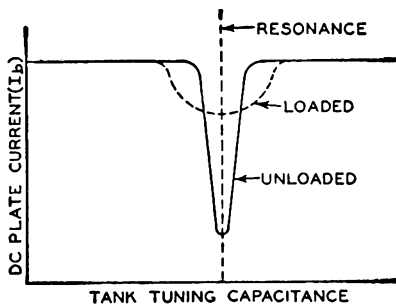

Fig. 50
(1) Make sure that all power to the equipment is *off*.
(2) Disconnect all positive plate, screen-grid, and suppressor-grid supply leads from the amplifier and from all following stages.
(3) If variable coupling is used between driver and amplifier, adjust the coupling to approximately one-half maximum.
(4) Apply only normal filament or heater voltage to the amplifier, and all normal operating voltages to the driver.
(5) Quickly tune the driver plate circuit to resonance, which is indicated by a dip in driver plate current, as shown in Fig. 50, and by maximum grid current in the amplifier stage. If the amplifier has a tuned grid circuit, this circuit should also be tuned to resonance (indicated by an increase in the amplifier grid current).
(6) Increase the coupling between driver and amplifier, being careful not to exceed the maximum permissible grid current for the amplifier tube or tubes. It should be possible to obtain full rated grid current for the amplifier stage without overloading the driver (overload being indicated by excessive driver plate current at resonance).
(7) Retune the driver plate circuit (and the amplifier grid circuit) to resonance. This procedure should always be
or the load coupling increased, the plate current of the amplifier should rise. Retune the amplifier plate tank to resonance after each change in coupling. The amplifier plate current should still dip at resonance, but its minimum value should be considerably higher than under no-load conditions, as shown by the dashed curve in Fig. 50.